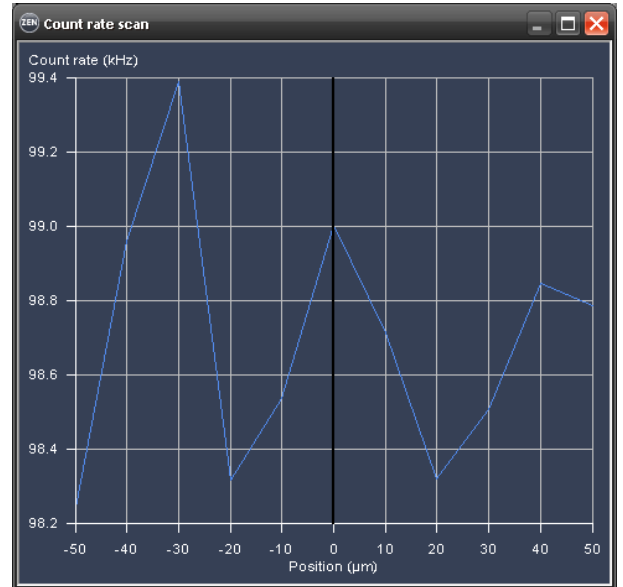
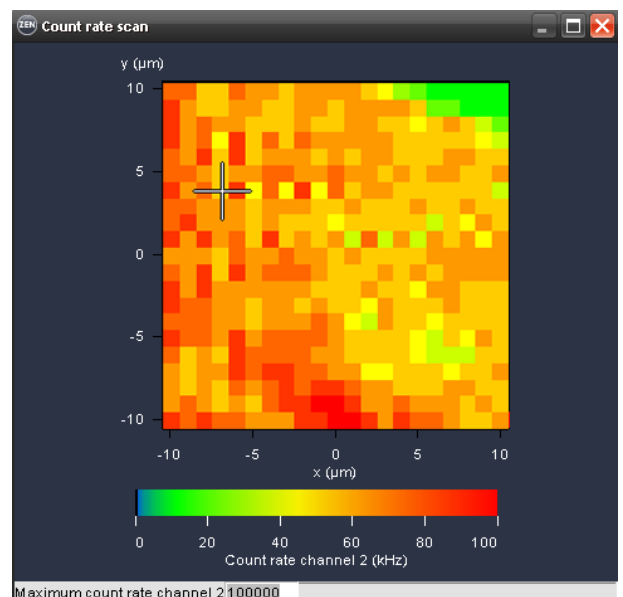

Fig. 9-111 Z-Scan result window (line plot)
Fig. 9-112 XY-Scan result window (line plot)
- The focus is now moved either in the x, y, or z direction or a combination of two (xy, xz and yz) in dependence of what button is active over the pre-selected distance. During the scan the count rate is displayed for the selected channels. Dependent on the scan modalities the count rates for the selected channels are plotted in a line plot (x, y and z) (Fig. 9-111) or frame plot (xy, xz and yz) (Fig. 9-112). In the frame plot intensities are color coded. The maximum intensity in Hz is displayed in the **Maximum count rate channel 1** and **2** display boxes.